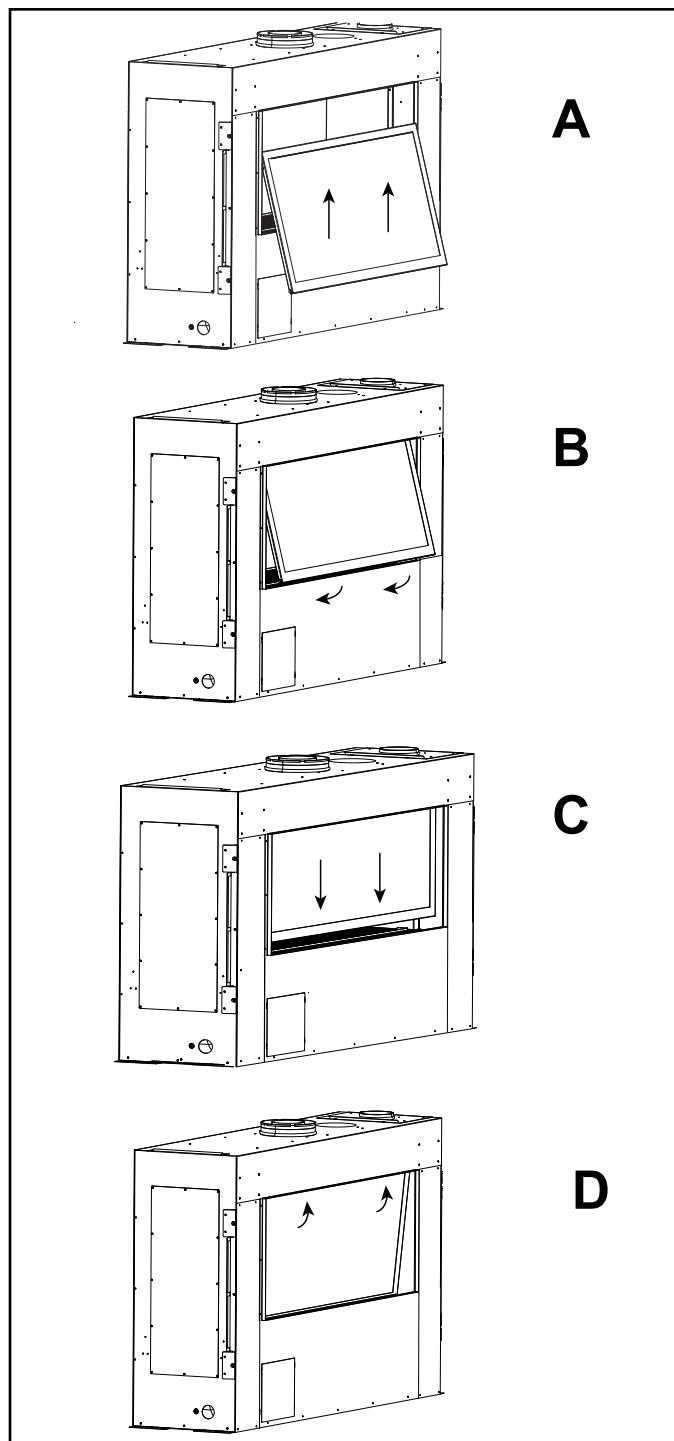

Figure 4.6 Replacing Firebox Glass
1. Place the top of the firebox glass assembly into appliance first. Tilt the bottom in toward the firebox and set glass assembly into the glass frame rail ensuring that the assembly is centered left to right. See Figure 4.6.